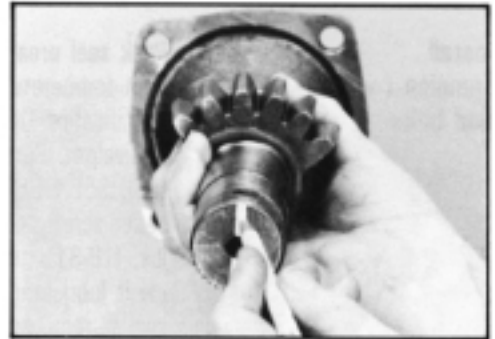

Figure 156
49. If there is not a timing mark on the end of sector shaft (51) add a timing mark with chalk or marking pencil on the end of the sector shaft in line with the center of the center tooth **space**. SEE FIGURE 156.